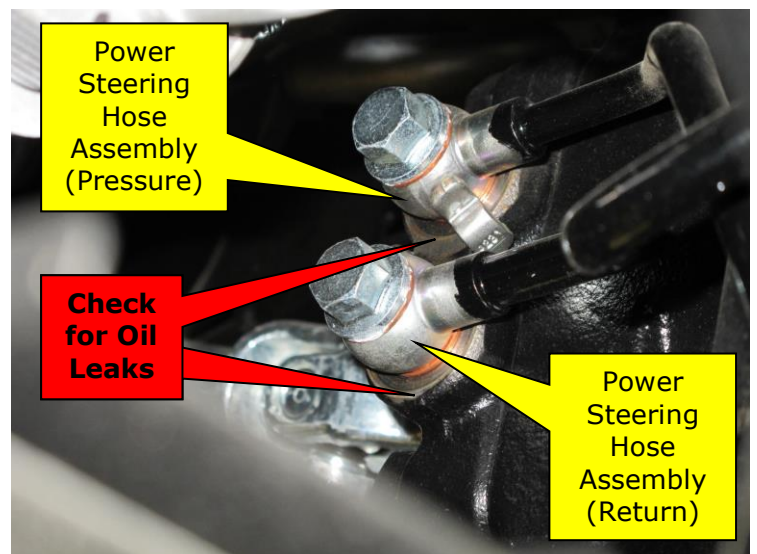

Figure 3
2. Inspect for **LEAKS** between the Steering Gear Box and Power Steering Hose Assembly (Pressure) and Power Steering Hose Assembly (Return) connections. (Figure 3).